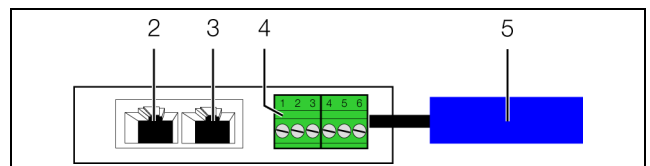

Fig. 8: Rear of the airflow sensor
- Connect the three colour-coded wires from the sensor-probe cable to the pins on the universal interface as follows (fig. 8, item 4).
- Use a CAN bus connection cable to connect the airflow sensor to a CAN bus interface on the CMC III Processing Unit or the neighbouring component on the CAN bus (fig. 8, item 2).
- If necessary, connect another component (e.g. another sensor type) to the second, free CAN bus interface of the airflow sensor (fig. 8, item 3).